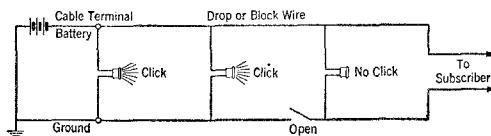

Fig. 8
3.02 To locate an open in the drop or block wire plant, isolate the fault by making successive tests at different points in the line with the hand test set. (See Figure 8.)